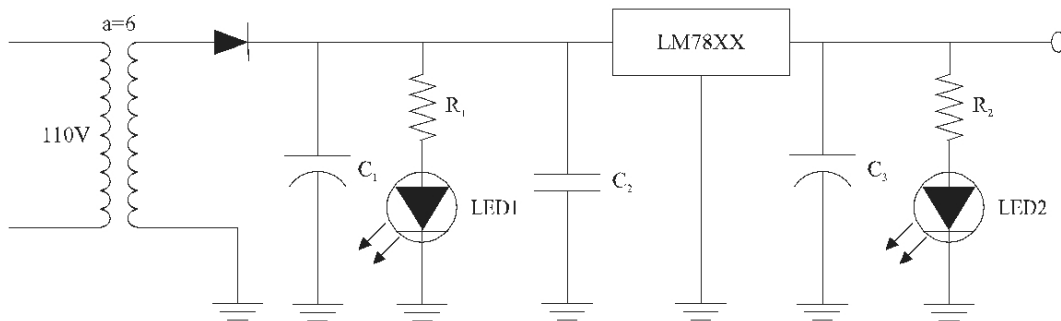

Figure 6-7. Circuit of exercise 6.1.
6.1. For the circuit in figure 6.7, determine the value of each component, and choose the regulator that allows for maximum voltage utilization.
6.3. How could the circuit in Figure 6.7 be converted into a circuit with a variable output?